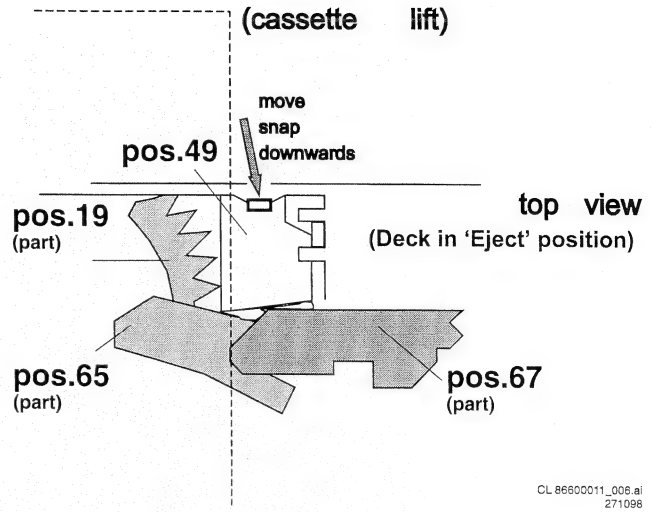

Figure 15
- Remove belt pos. 3.
- Remove switching lever pos. 49 by releasing the snap as shown in figure 15.
- Remove play switch lever pos. 80.
- Remove standby switch lever pos. 79.
- Carefully move the arm of switch lever assy pos. 39 away from the transport disc.
- Remove intermediate wheel pos. 34.
- Cut the three snappers of the transport disc pos. 33 and take out the disc. Do not damage the post!